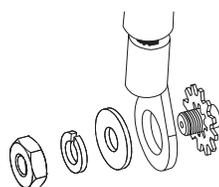

Fig. 10, Hardware Stack Up
6. Connect the power supply external ground connection to the rack ground stud  in Fig. 8. Follow the proper stack up (Fig. 10) to attach the supplied #10-32 nut, lock washer, flat washer, and supplied ground wire.